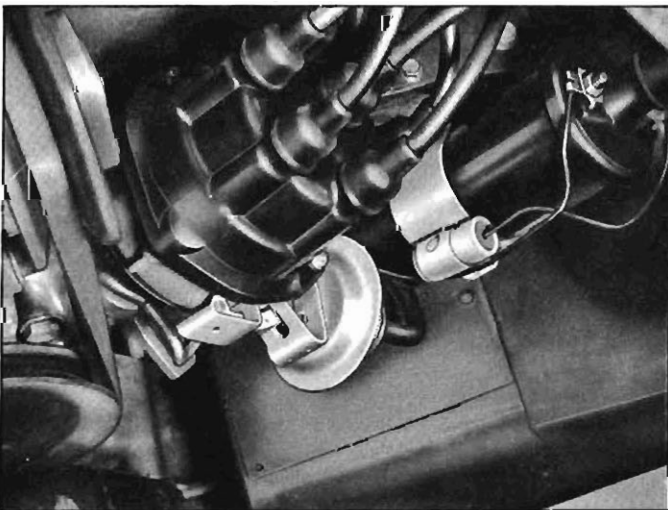

Fig. 8-6—Distributor Installed
4. Disconnect vacuum line from vacuum control assembly, remove distributor hold-down bolt and clamp, remove distributor from engine. Note position of vacuum advance assembly relative to engine for correct reinstallation (fig. 8-6).